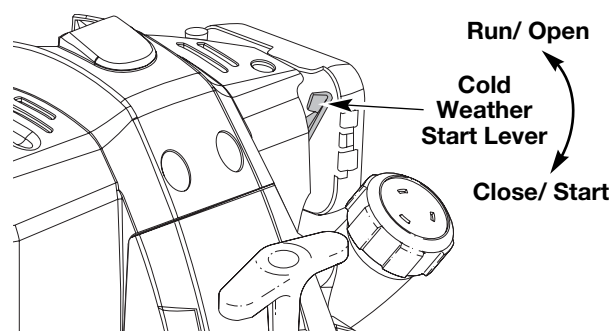

Fig. 23
**IF COLD...** For cold weather conditions (below 40°F), flip the Cold Weather Start Lever (Fig. 23) down to the start/closed position and continue to step 3. **DO NOT** flip this lever down if the temperature is above 40°F.